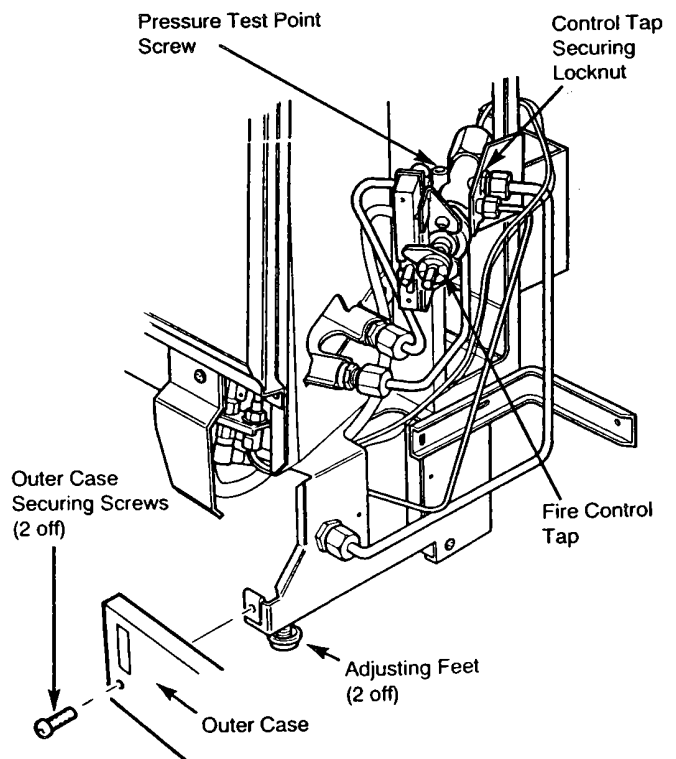

Fig. 6 Commissioning the Fire
2. Locate the fire spigot into the draught diverter on the boiler. Push the fire backwards until the backing plate touches the surround or finished wall face. Adjust the feet to level the fire (Fig.6).
2. On electronic control boilers it will be necessary to remove the input plug from the controls. Push the support plate backwards until it touches the wall surface and tighten the screws to lock the frame in position. Locate the fire spigot into the draught diverter on the boiler. Push the fire backwards until the backing plate touches the finished wall face. Adjust the feet to level the fire (Fig.6).
2. Remove the pressure test point sealing screw and connect a pressure gauge (Fig.6).
- Secure the outercase to the inner case using the two securing screws provided (Fig.6).
- (ii) Remove the 2 outercase securing screws (Fig.6).